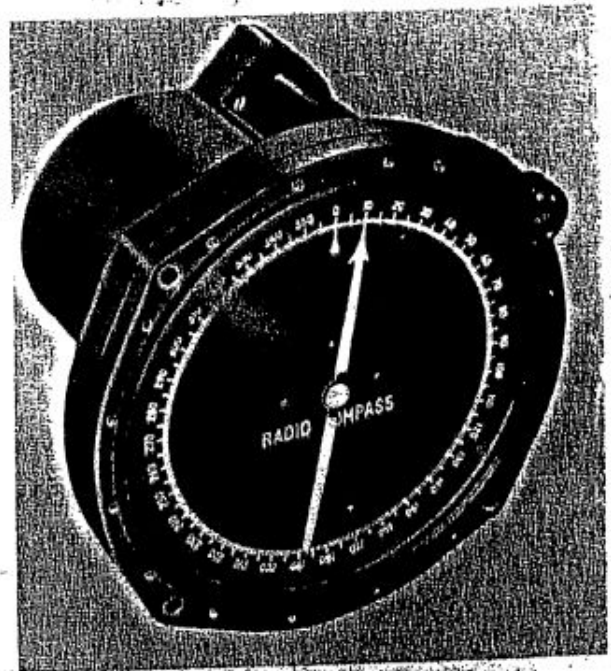

Figure 1-11. Indicator ID-92/ARN-6 or ID-92A/ARN-6
j. INDICATOR ID-92/ARN-6 AND ID-92A/ARN-6 (NAVIGATOR'S). (See figure 1-11.)—Indicator ID-92/ARN-6 or ID-92A/ARN-6 (Navigator's) is an autosyn driven device similar to ID-90/ARN-6 or ID-90A/ARN-6 with the exception that a larger scale is used. The scale is graduated every degree and in addition every 10-degree graduation is indicated by the proper numeral. The azimuth scale may be manually rotated by means of a "VAR" knob located on the front of the indicator.